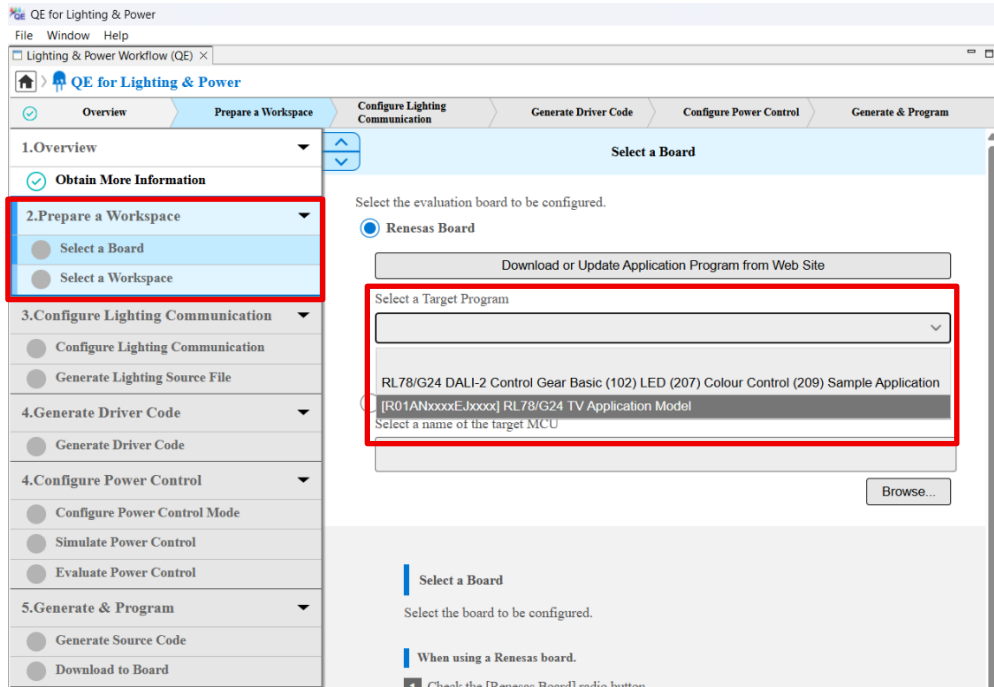

Figure 3.3 Select a Board
- (1) Click “Select a Board” under “2. Prepare a Workspace” (Figure 3.3).
- (2) Select the “Renesas Board” radio button, then choose “[R01AN8175EJ0100] RL78/G24 TV Application Model” from “Select a Target Program.”